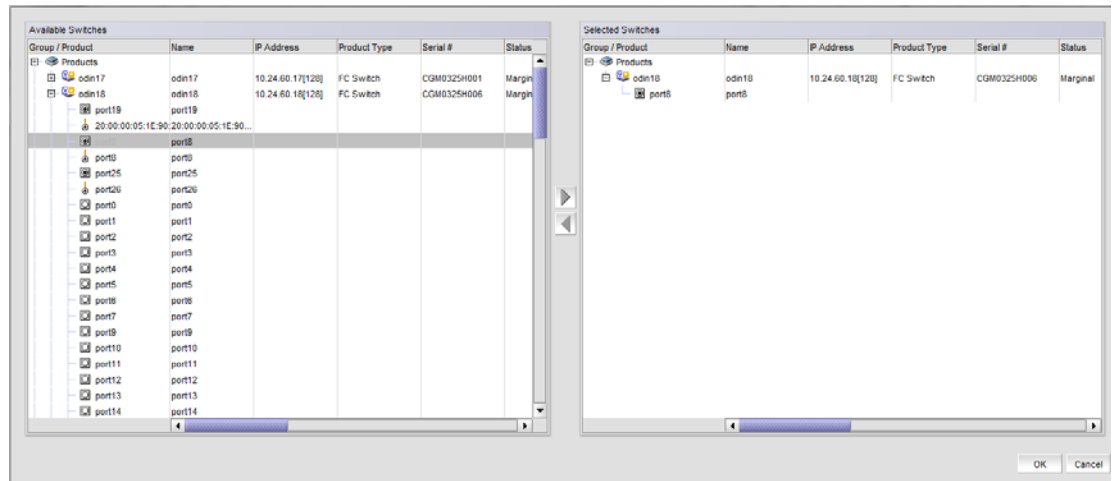

FIGURE 426 Select Switch Ports dialog box.
- Click the ellipsis button to the right of the **Ingress** and **Egress** fields to display the **Select Switch Ports** dialog box (Figure 426). Use this dialog box to select switch ports from discovered fabrics.